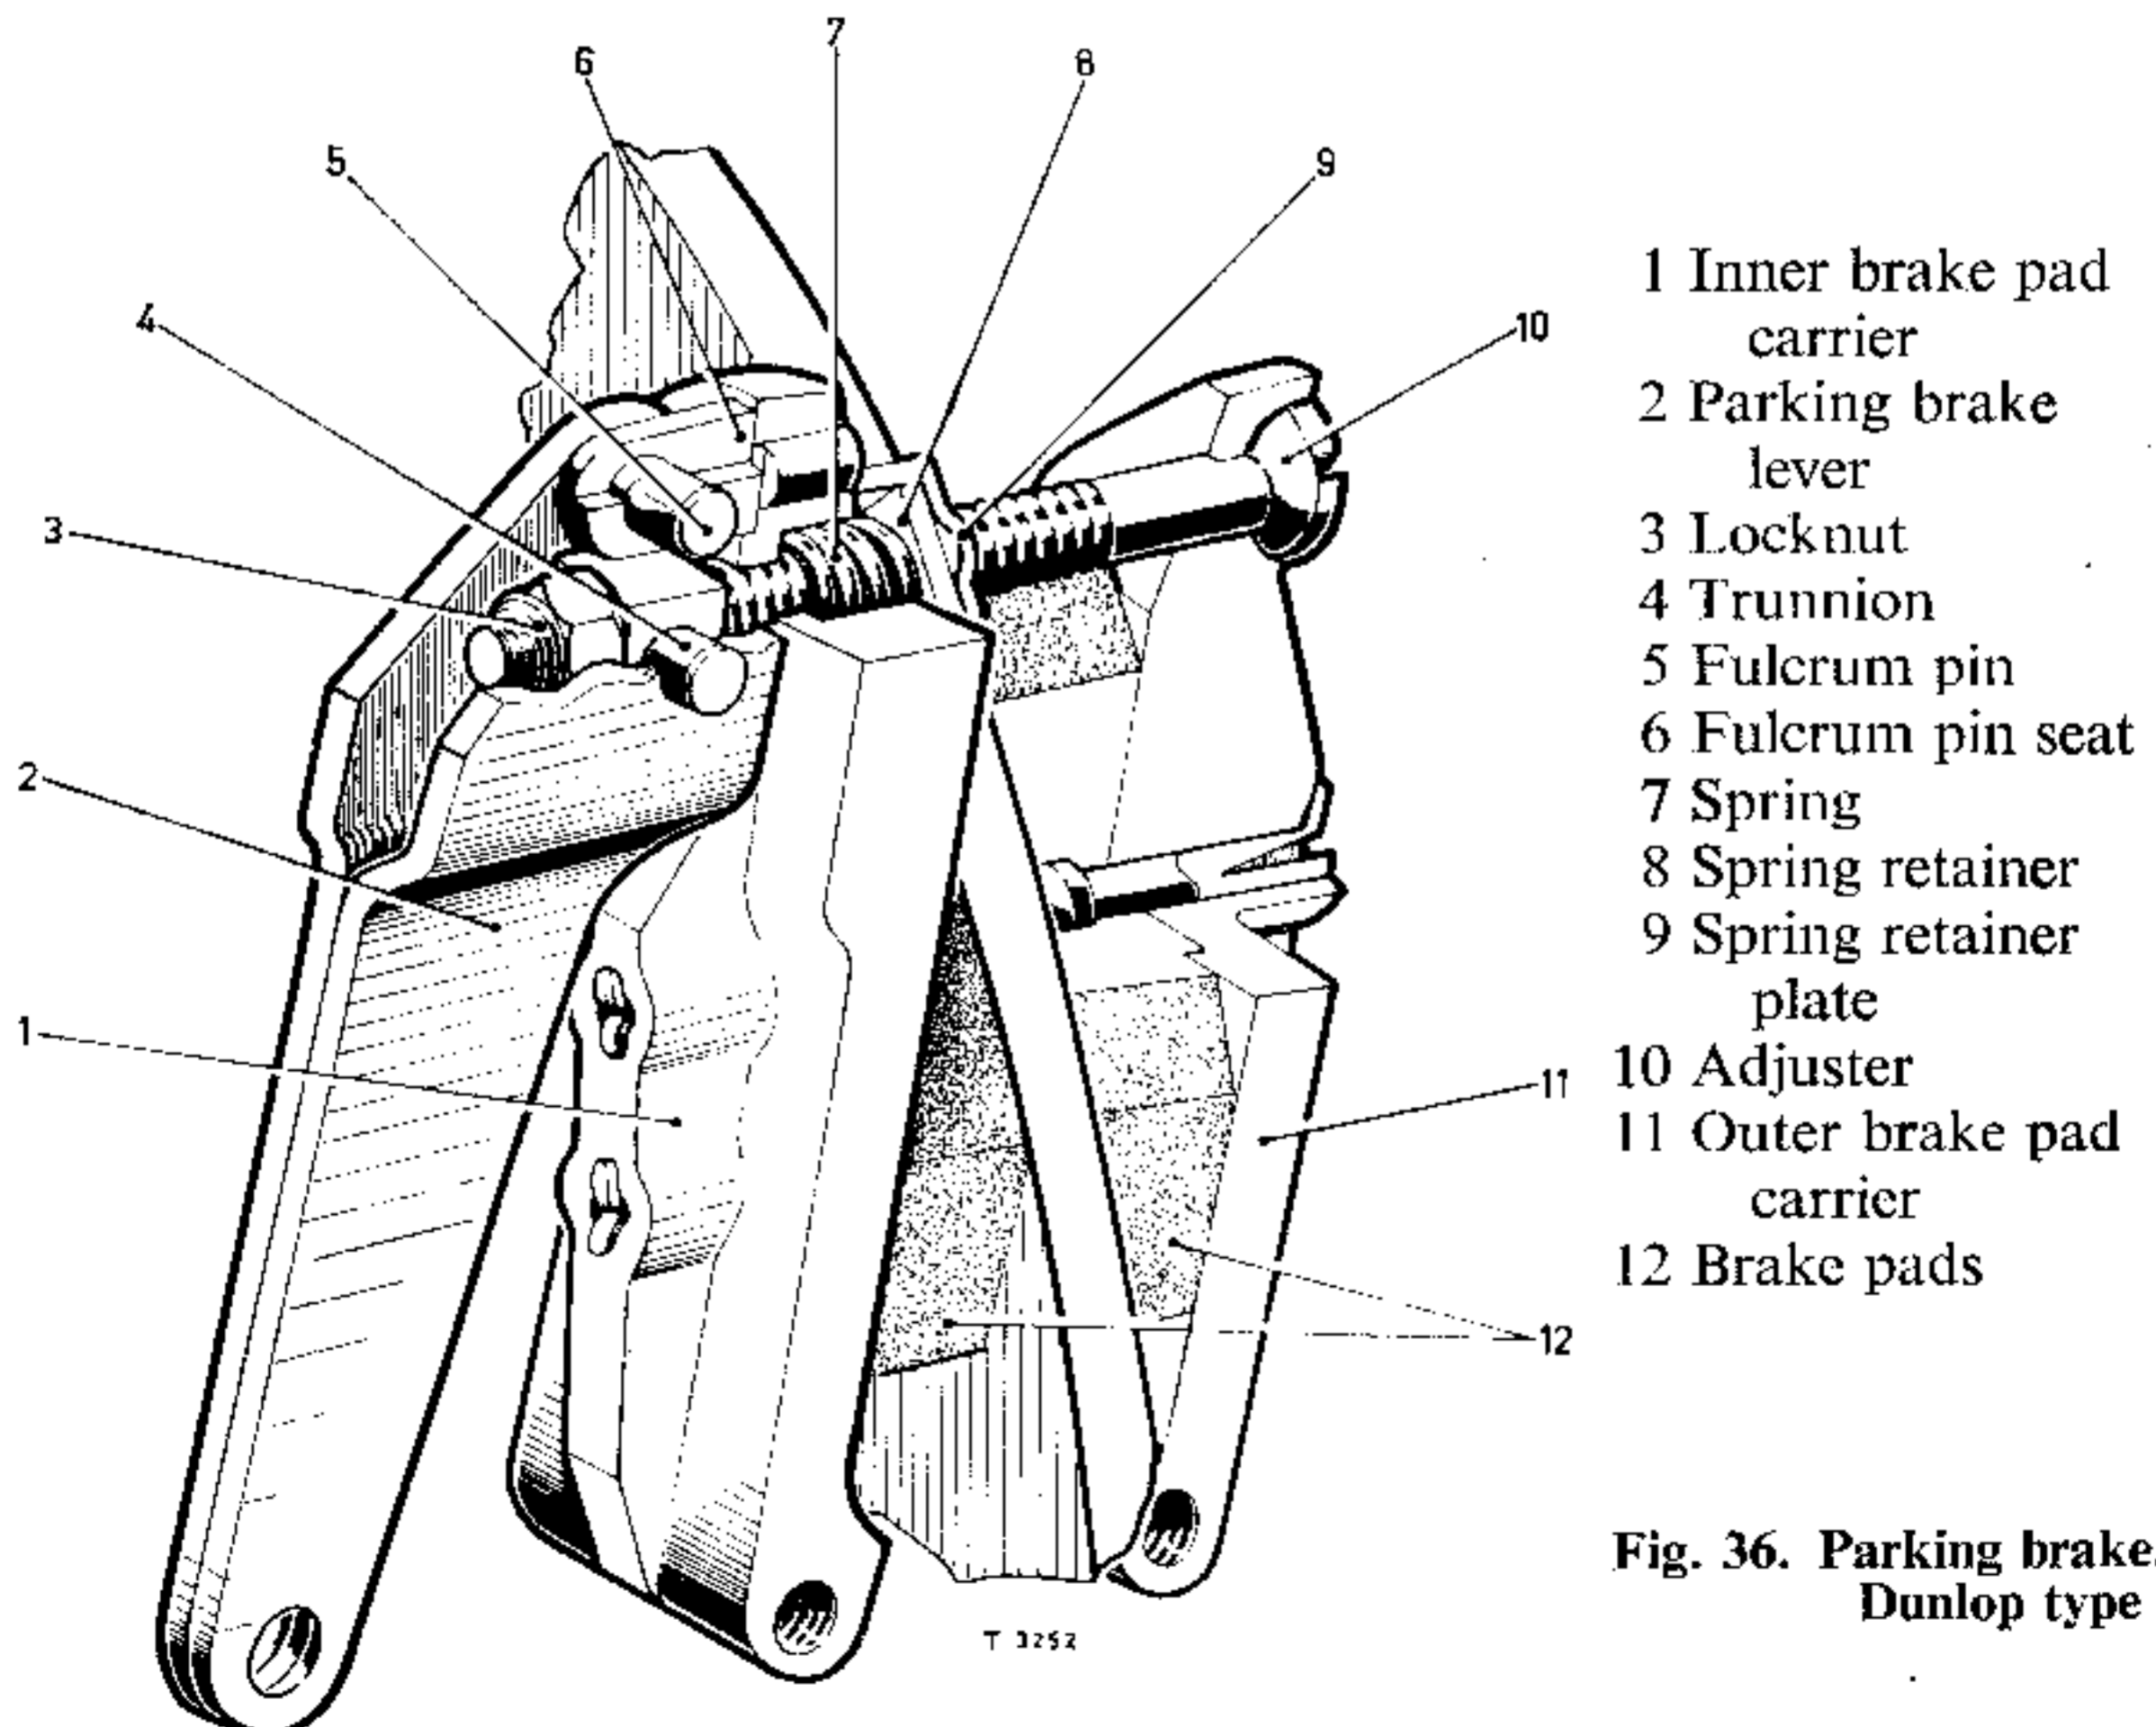

Fig. 36. Parking brake, Dunlop type
**Parking brake:** The mechanically-operated parking brake is mounted on top of each rear brake calliper. See Fig. 36 for a sectional view of the parking brake components.